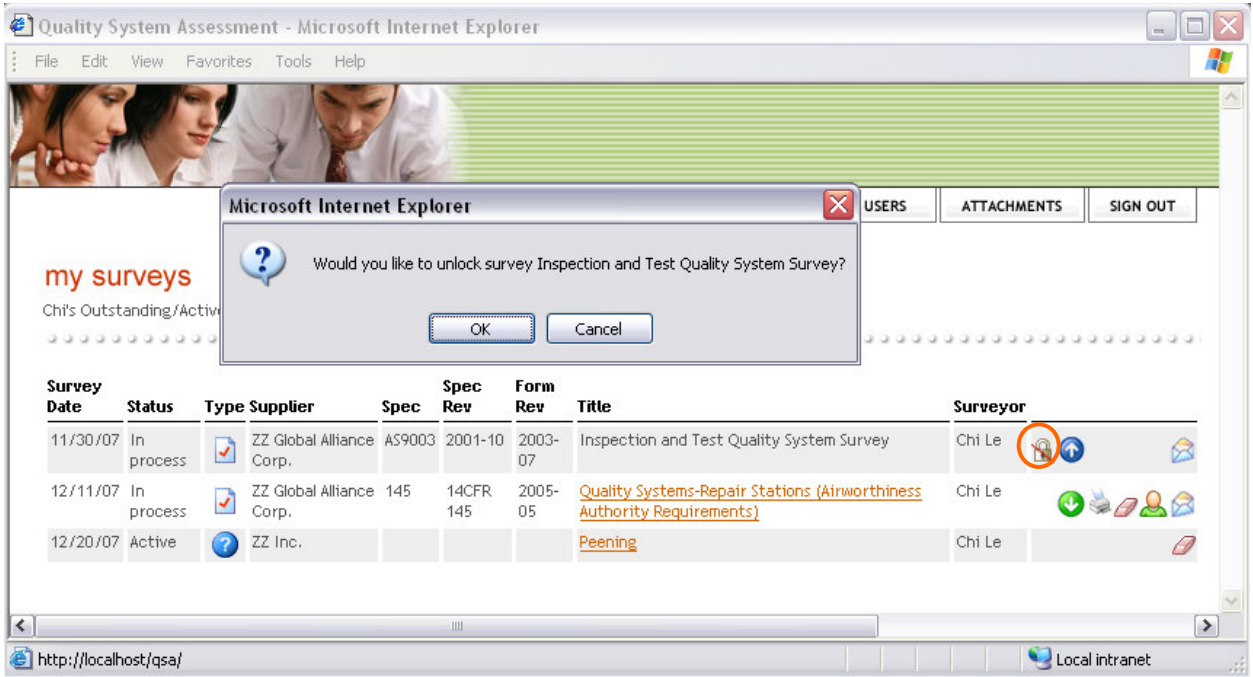

Figure 27 – Unlock Survey
- An the “my surveys” page, locate the survey you wish to unlock (as shown in figure 27).